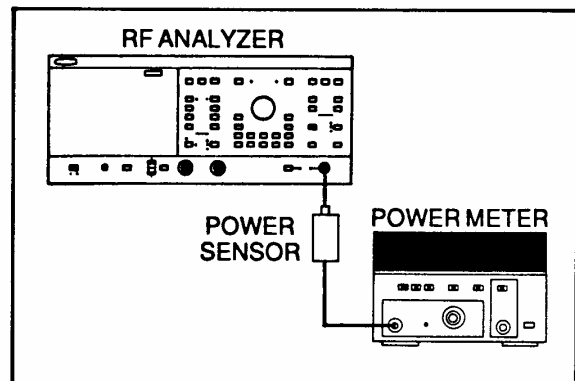

Figure 5-2. Test Setup for Output Power Flatness Test
2. Setup test equipment per Figure 5-2, and turn the equipment on.